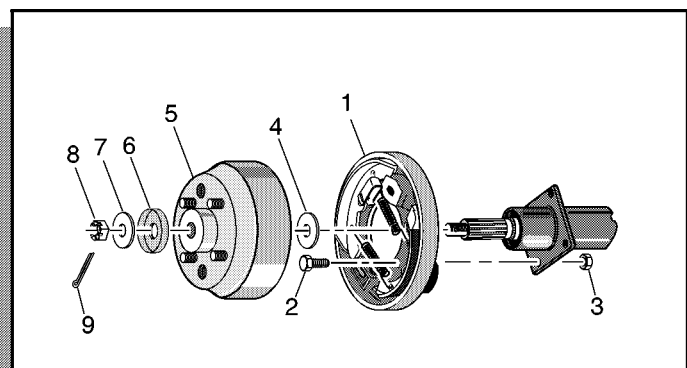

Fig. C-25 Brake Assembly Installation
- Position the brake assembly (1) on the axle tube as shown (Ref Fig. C-25 on page C-10).
1. Apply an anti-seize compound (Neverseize) to the axle shaft splines and install the washer (4) and brake drum (5) onto the axle shaft and brake assembly in the same manner described for the left side (Ref Fig. C-25 on page C-10).
1. Install the cup washer (6) (if used), spacer (7), axle nut (8), and cotter pin (9) on the axle shaft as shown (Ref Fig. C-25 on page C-10). Tighten axle unit to specified torque.